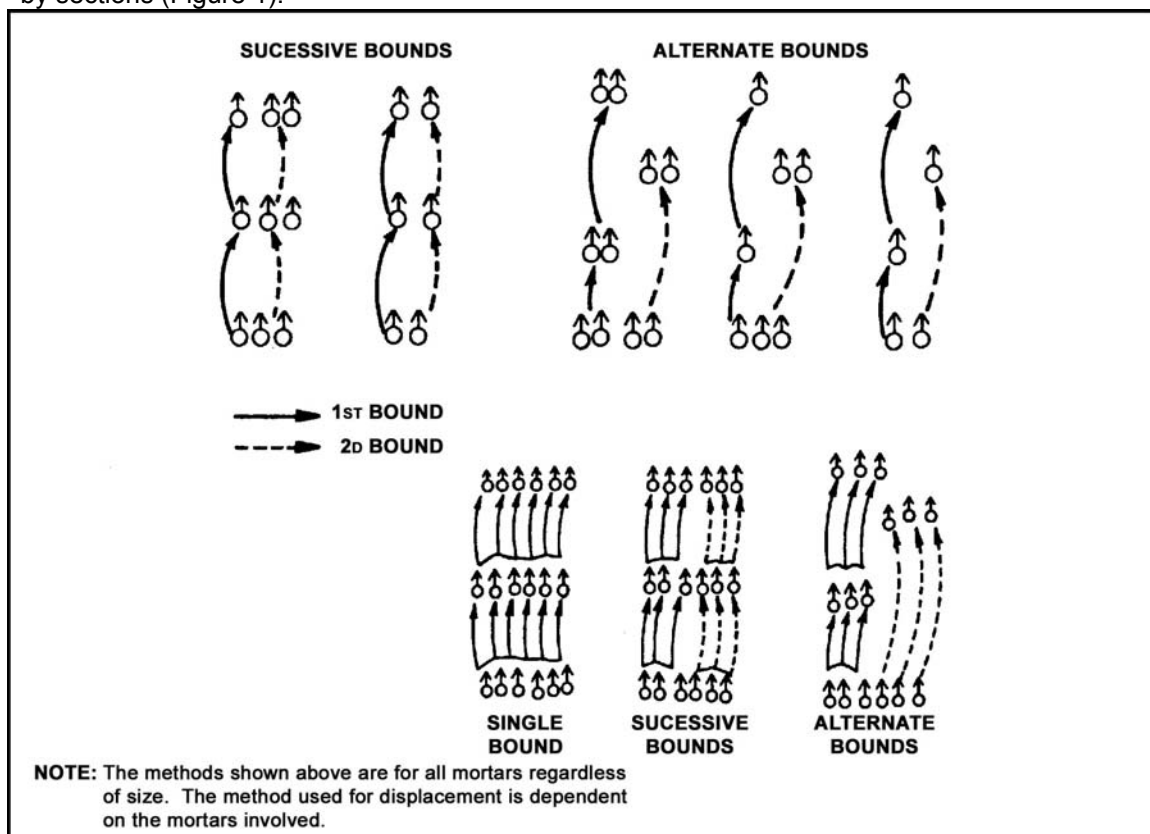

Figure 1. Displacement methods.
2. Displacement by sections. This method requires one section to remain in position while the other section moves. When the displacing section is in position and ready to fire, the remaining section displaces. Depending on the platoon's organization, each section displaces with a portion of the platoon fire-direction center (FDC) or with its organic FDC. They displace by sections when continuous mortar support is required. Since one section must provide fire support while another moves, this is slower than displacing by platoon. Platoons with four or more mortars usually displace by sections (Figure 1).